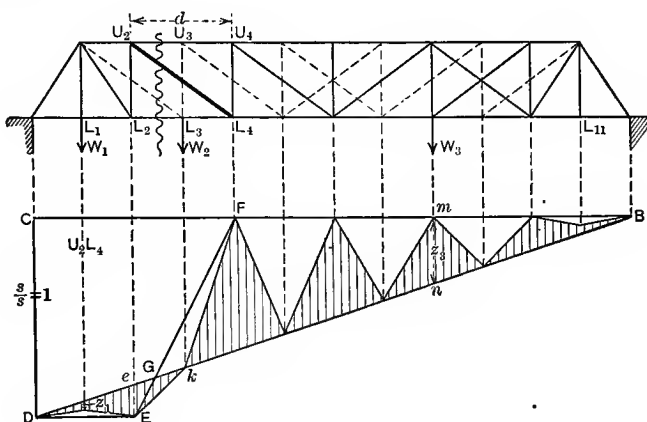

FIG. 22.
**Diagonal of Whipple Truss.**—The diagonal  $U_2L_4$ , Fig. 22 is a member of the truss shown by full lines and its influence diagram is constructed in a manner similar to that explained for the vertical  $U_4L_4$ . The influence diagram is shown by the shaded areas.